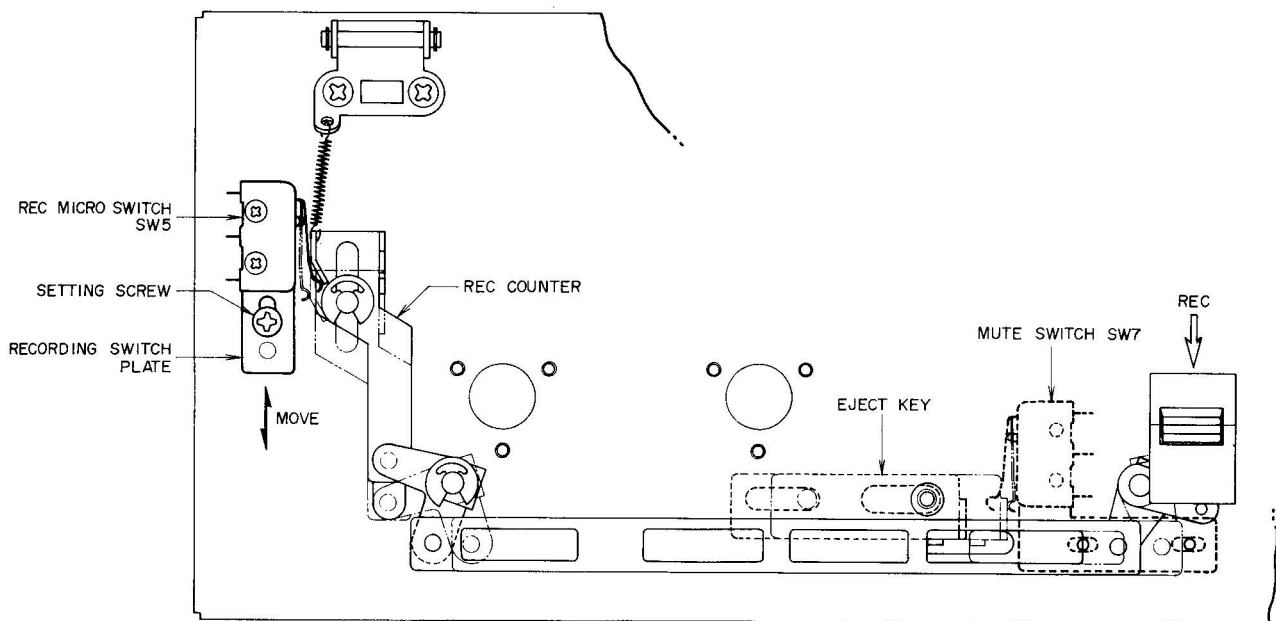

Fig. 3
3. REC MICRO SWITCH POSITION ADJUSTMENT (Refer to Fig. 3)